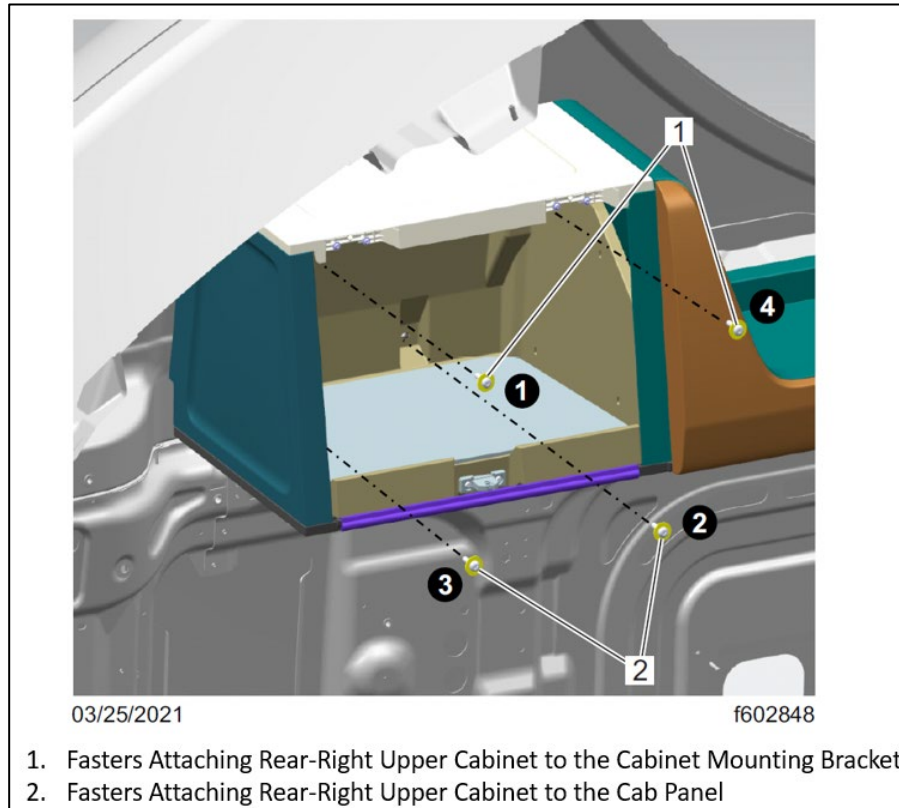

Fig. 70, Fasteners That Attach the Rear-Right Upper Cabinet to the Upper-Rear Shelf and the Cab Panel
- 15.2. Install the four fasteners that attach the rear-right upper cabinet to the cabinet mounting bracket and the cab panel. Tighten the fasteners 7 to 9 lbf.ft (9 to 12 N.m) as per the sequence shown in Fig. 70.